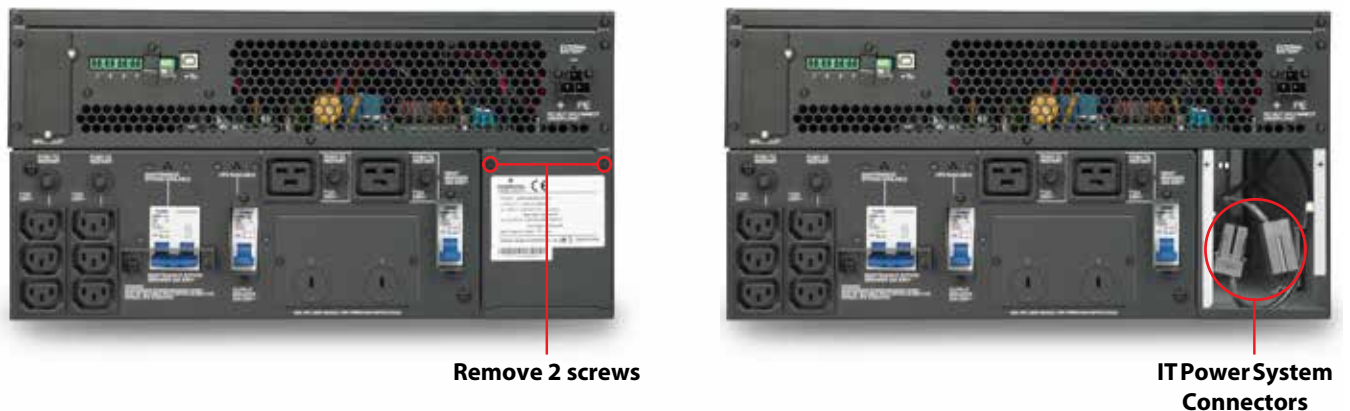

Figure 22: Remove the IT power system access cover
1. Remove the screws on the IT power system access cover as shown in Figure 22.
2. Disconnect the connectors as shown in Figure 22.